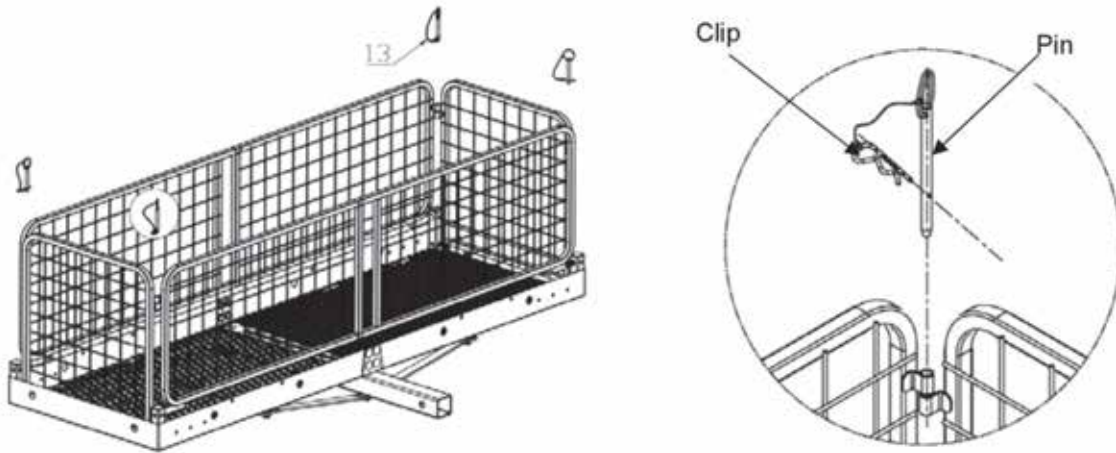

FIG. 7
Step 8. Align the holes on all hinges, then insert the pin (13) and secure with the clip (13). See Fig. 7.